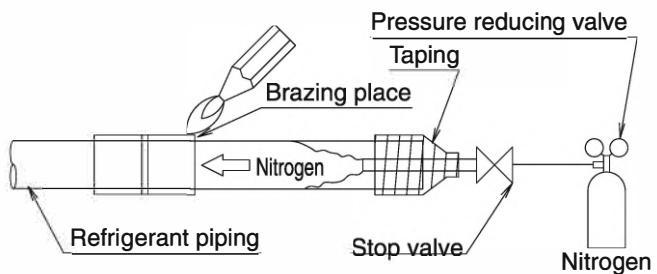

Fig. 9
- Use the insulation for fitting (3) and (4) provided to the liquid piping and gas piping, respectively and conduct heat insulation work. (Tighten both edges of the insulation for fitting(3) and (4)for each joint with clamp(7).)
- Wrap the middle sealing material (6)around the insulation for fitting (3)and(4)for the joint (flare nut part).
- Before brazing refrigerant piping, have nitrogen flow through the refrigerant piping and substitute air with nitrogen (NOTE 1) (Refer to Fig. 9). Then, carry out brazing (NOTE 2).